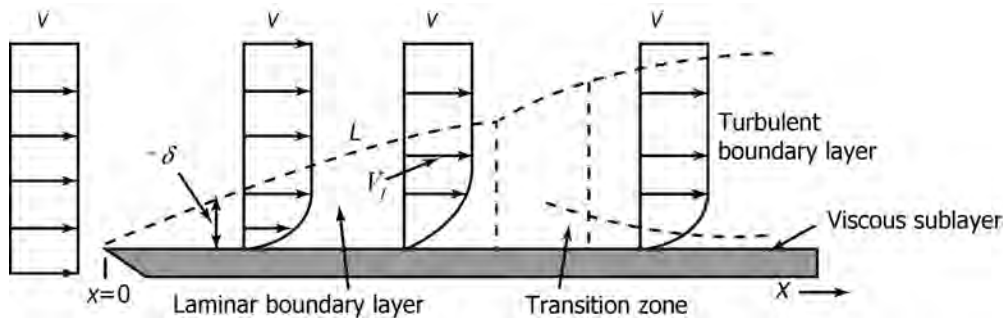

FIGURE 2.5 Development of boundary layer.
- Development of boundary layer is illustrated in Figure 2.5.